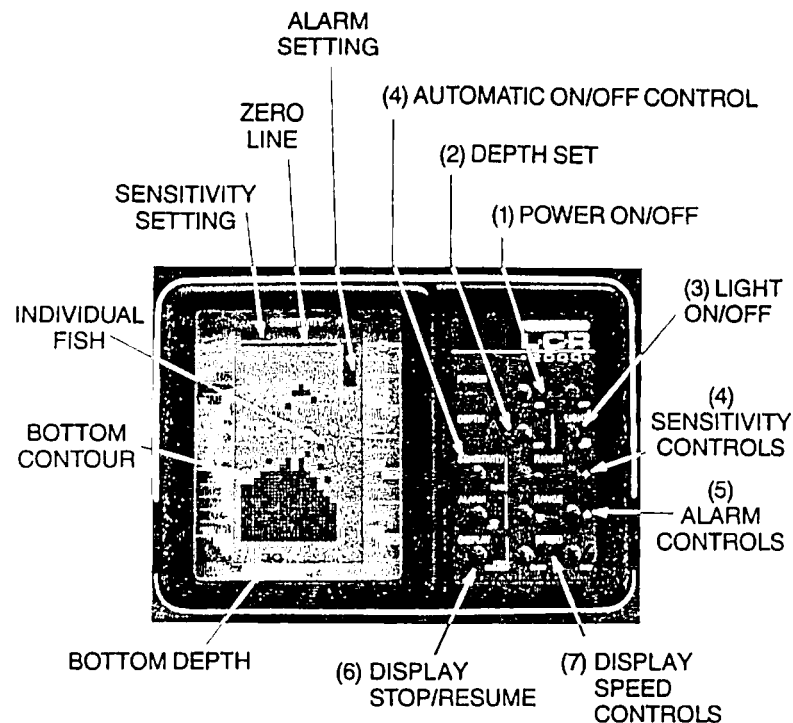

FIGURE 12
1. Power: (See Fig. 12) To activate the unit, depress the Power "On" switch. The LCR 2000 always comes on in the automatic mode. In the automatic mode, the unit will find the bottom by varying the sensitivity and selecting the proper depth range for a satisfactory return. Also, the display below the bottom is blacked out to make the display easier to read.
selected. The word Auto will appear in the upper right hand corner of the display any time the unit is in the automatic mode. The sensitivity bar at the top of the screen (See Figure 12) will increase or decrease automatically indicating the amount of sensitivity being used. In deeper water or soft bottom conditions this bar will increase indicating more sensitivity. In shallow water or when a hard bottom is being read, the sensitivity needed to achieve a good return will be less. Also in the automatic mode, the unit will black out the display beneath the bottom line.